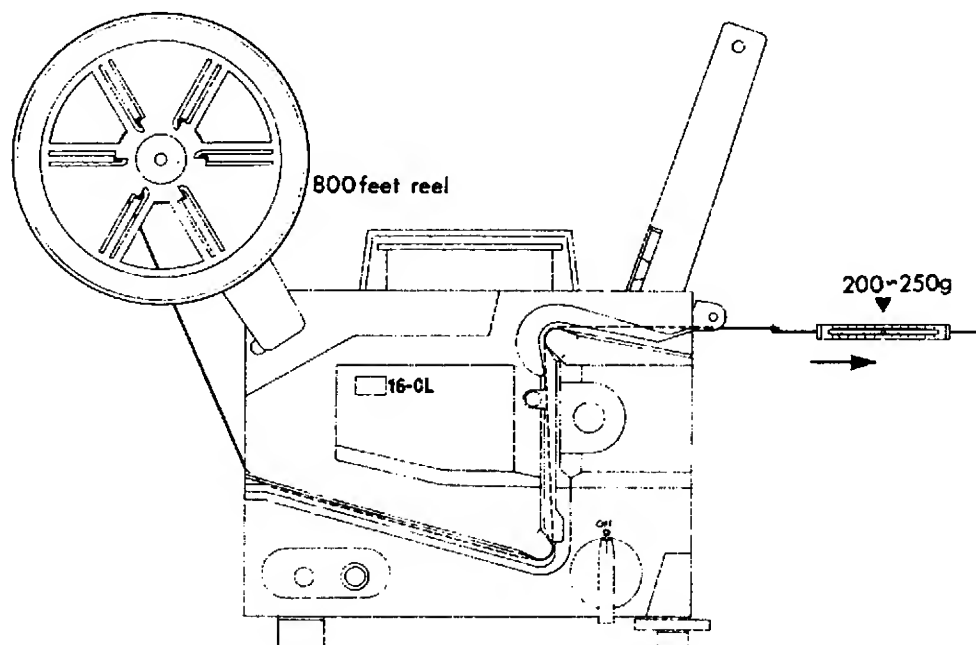

Fig. 19
- (1) As illustrated in Fig. 19, set Main Knob (Fig.1-22) at "OFF" position. And wind film on attached 800 ft Reel through Channel, and turn the reel for about 10 times by hand.
- (2) While pulling out the film in the direction of the arrow illustrated in Fig. 19, measure the tension by a tension guage. The tension is to be 200-250gr.